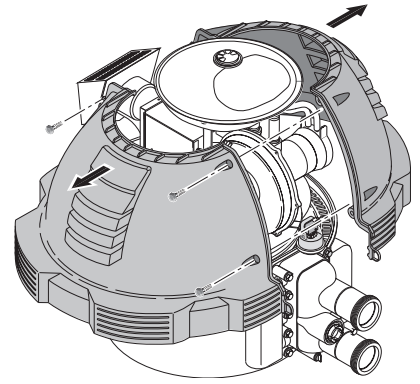

Figure 37.
5. Remove the jacket cover(s) by unfastening the screws connecting both halves of the top jacket, see Figure 37.
3. Remove the jacket cover(s), see Figure 37.